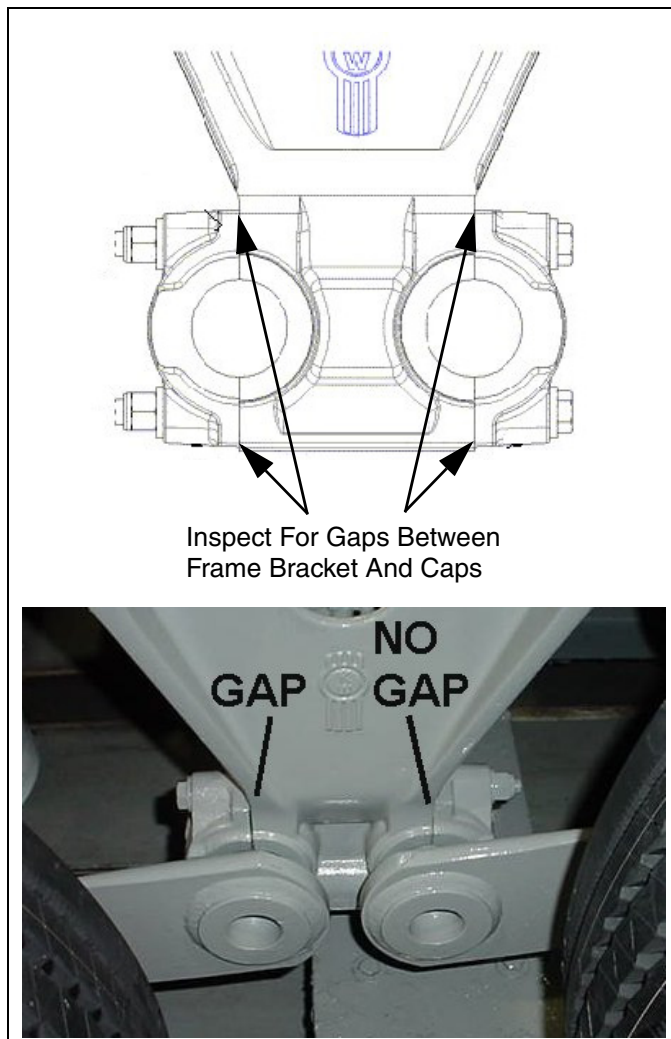

Figure 15-15
12. Inspect all joints for gaps between the frame bracket and caps. See Figure 15-15.